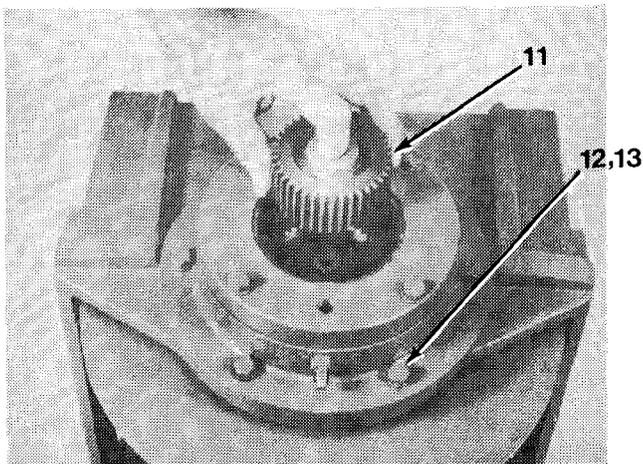

Figure 16-4
22. Install brake clutch assembly (11, Figure 16-4).